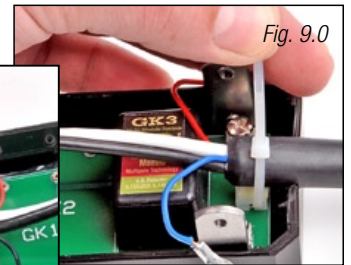
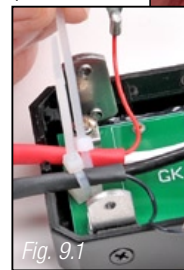

Fig. 9.0
Fig. 9.1
**9** Secure and tighten the zip tie around the single "input" cable. (Fig 9.0) Repeat for each of the "output" cables. (Fig 9.1)